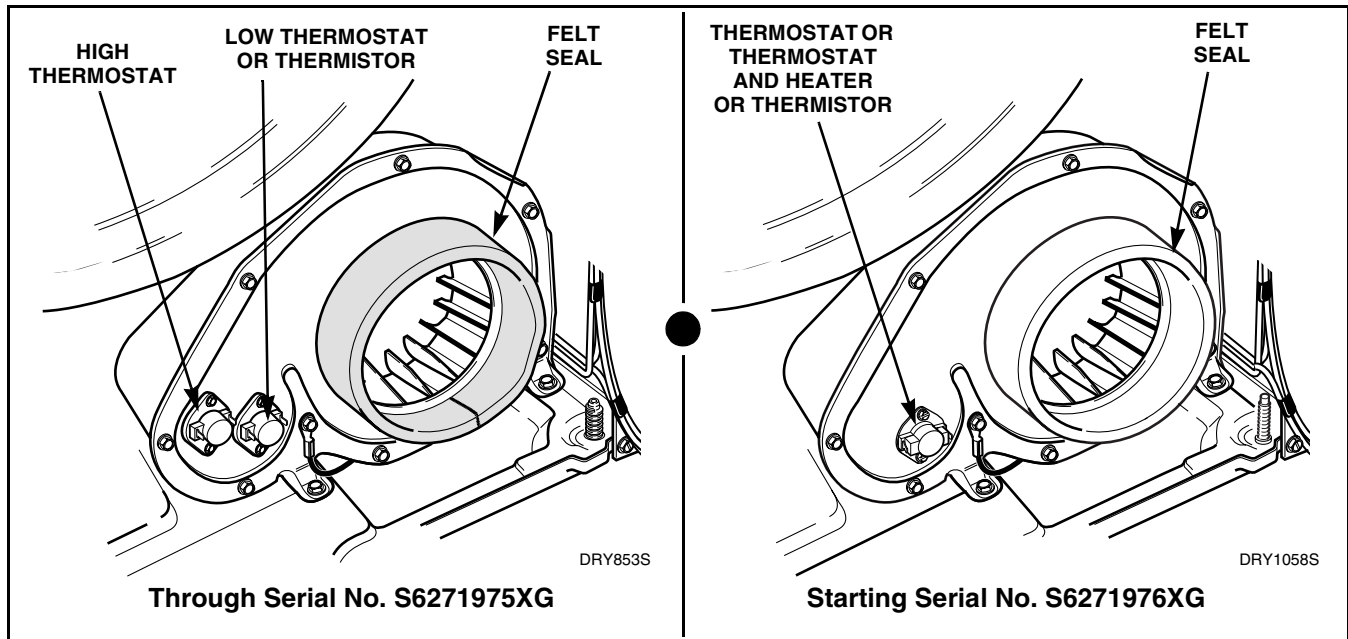

Figure 20
- Disconnect wires, remove attaching screws, and remove thermostat or thermostat and heater or thermistor. Refer to *Figure 20*.
NOTE: When reassembling, be sure felt seal on exhaust fan cover makes air tight seal on flange of duct. Refer to *Figure 20*.
NOTE: When reassembling, be sure felt seal on exhaust fan cover makes air tight seal on flange of air duct. Refer to *Figure 20*.
- Disconnect wires from thermistor, thermostat or thermostat and heater. Refer to *Figure 20*.